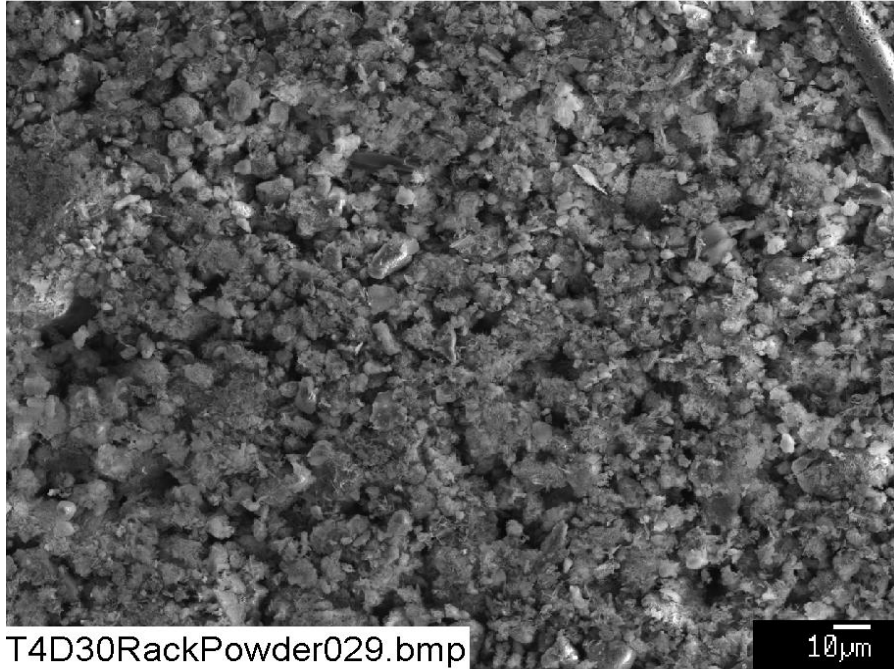

Figure E-1. SEM image magnified 500 times for a Test #4, Day-30 fine powder on the submerged rack. (T4D30RackPowder029.bmp)
- Figure E-1. SEM image magnified 500 times for a Test #4, Day-30 fine powder on the submerged rack. (T4D30RackPowder029.bmp) E-4